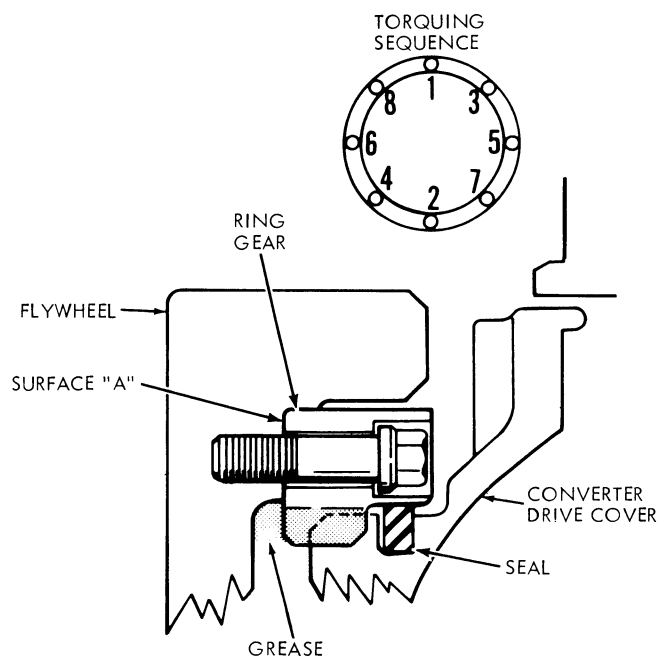

Figure 3 - Drive Ring Installation
2. Assemble the drive ring to the flywheel. Torque the mounting bolts to 36 to 43 foot-pounds. Torque bolts in the order shown in Figure 3.